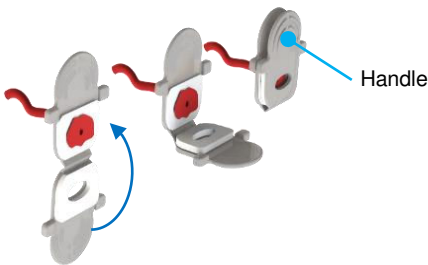
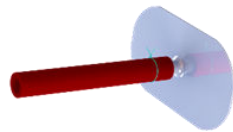

Figure 15: Connecting the aortic patch to the patch holder.
Figure 16: Straight cannula with artificial patch.
- Push the aortic patch of the renal artery gently through the opening of the patch holder as shown in the illustration below. Make sure not to force the patch! Position the aortic or artificial patch correctly in between the soft materials of the patch holder. Make sure the renal artery is not twisted or collapsed, then fold the patch holder to close it (figure 15).
- In case no aortic patch is present, use the straight cannula with artificial patch (figure 16), available in 3 or 5 mm diameter. Secure the cannula in the renal artery with a firm ligature. Guide the artificial patch through the opening of the patch holder and close the holder by bringing both sides towards each other as in figure 15.
- Hold the patch holder by the ribbed handle (figure 15) and pinch lightly when handling the cannulated kidney.